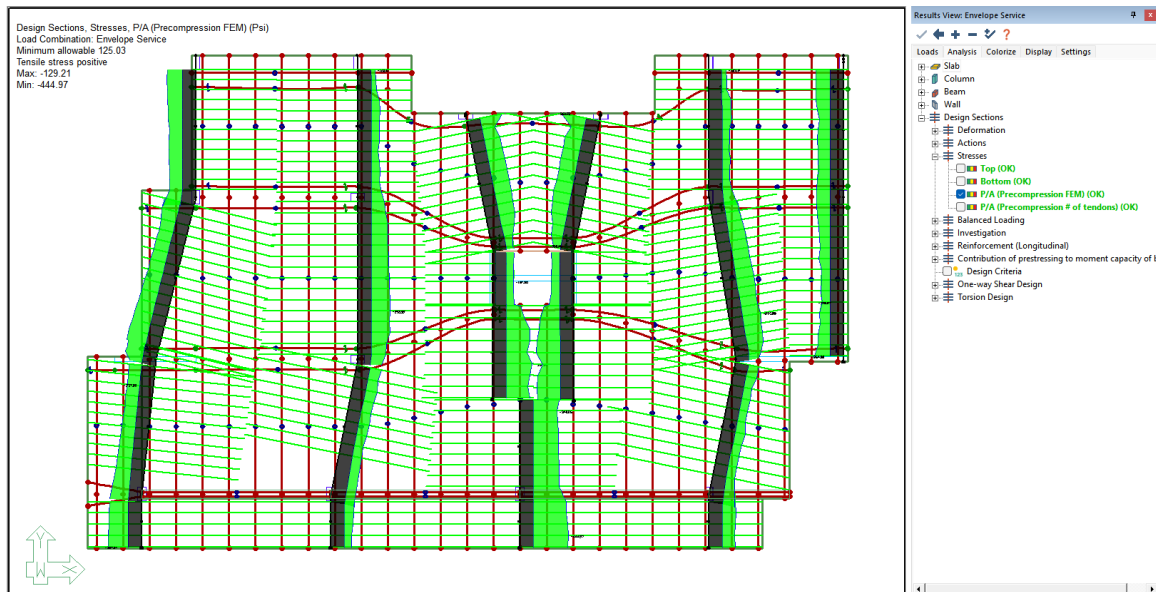

FIGURE 9-112
- When the optimization and design is finished for the distributed direction, you should be able to review stresses for the support lines and see them all passing. When all are passing you should see **OK** next to each result in the *Results View* panel as shown in **FIGURE 9-112**.